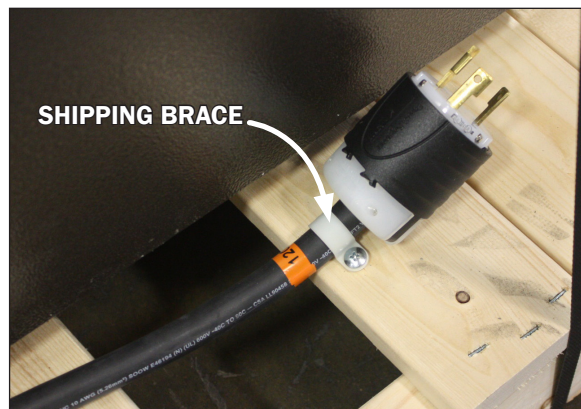

Fig. 1 Power cord shipping brace
4. The power cord shipping brace (Fig. 1) can be removed with a screw gun. As for case shipping braces, the same would be applied with sled runner or caster construction. If the braces are metal brackets or locks they can be removed with a screw gun. If they are wood blocks they can be removed with a J-bar. **Note: Shipping braces are normally located at each corner of the case. Some case models with casters will use bracing that surrounds the casters entirely and some will use braces that affix to the toekicks at each corner. (Shipping braces used vary and are based on case design for best transport.)**